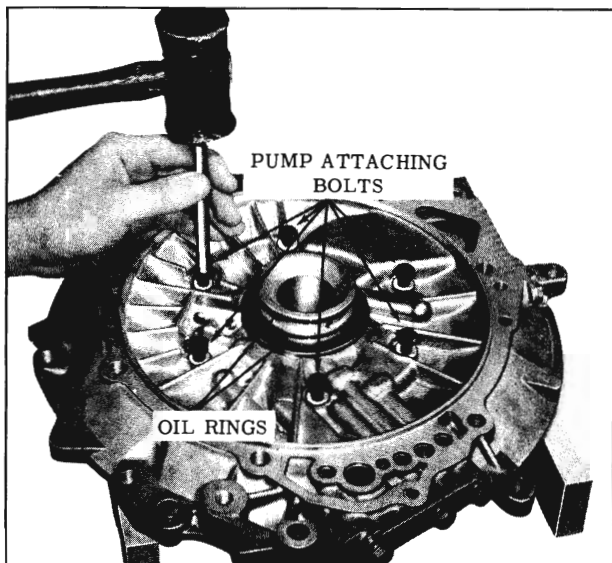

Fig. 3-51 Removing Oil Pump
2. Support cover so that pump is off bench and gently tap loosened bolts to disengage pump from case cover. (Fig. 3-51)